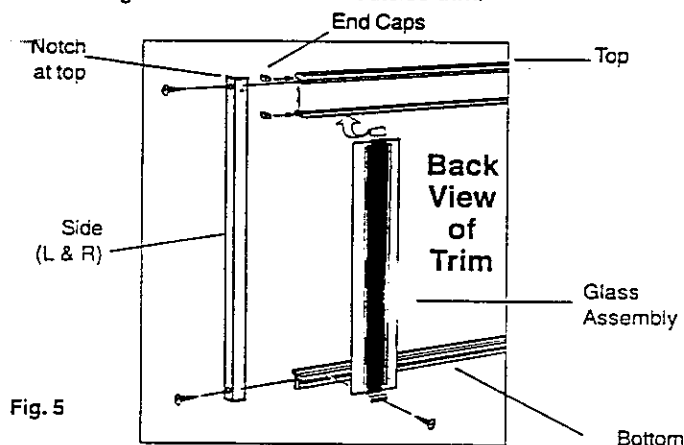

Fig. 5
1. Locate pieces of assembly as indicated in Fig. 5. These include a top, bottom, right, left, (2) glass assemblies, 6 screws (4 flat head and 2 truss head), and 4 end caps.
2. Insert end caps into the end of the top (see Fig. 5).
3. Assemble outer frame by attaching top, sides, and bottom with 4 flat head screws as depicted in Fig. 5.
4. Attach glass assemblies on left and right sides by inserting flange into top and attaching with truss head screw in the bottom (see Fig. 5). Outside of glass to be flush with outside trim.